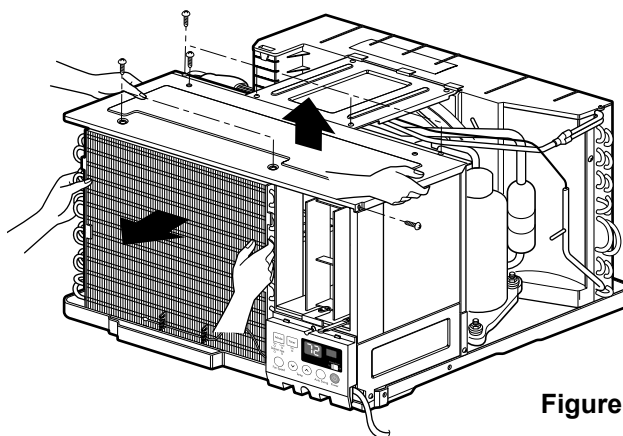

Figure 32
6. Re-install the component by referring to notes. (See Figure 32)